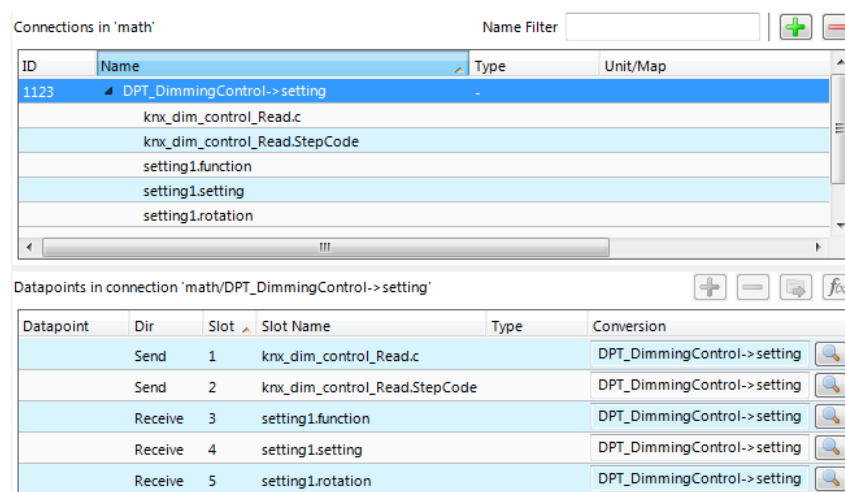

Figure 185: Created new multi-slot connection from math adaptor.
2. In the dialog **Select Multi-Slot Math Adaptor** select an existing adaptor and click **Select**. A new multi-slot connection is added to the connection list with empty slots as depicted in Figure 185.